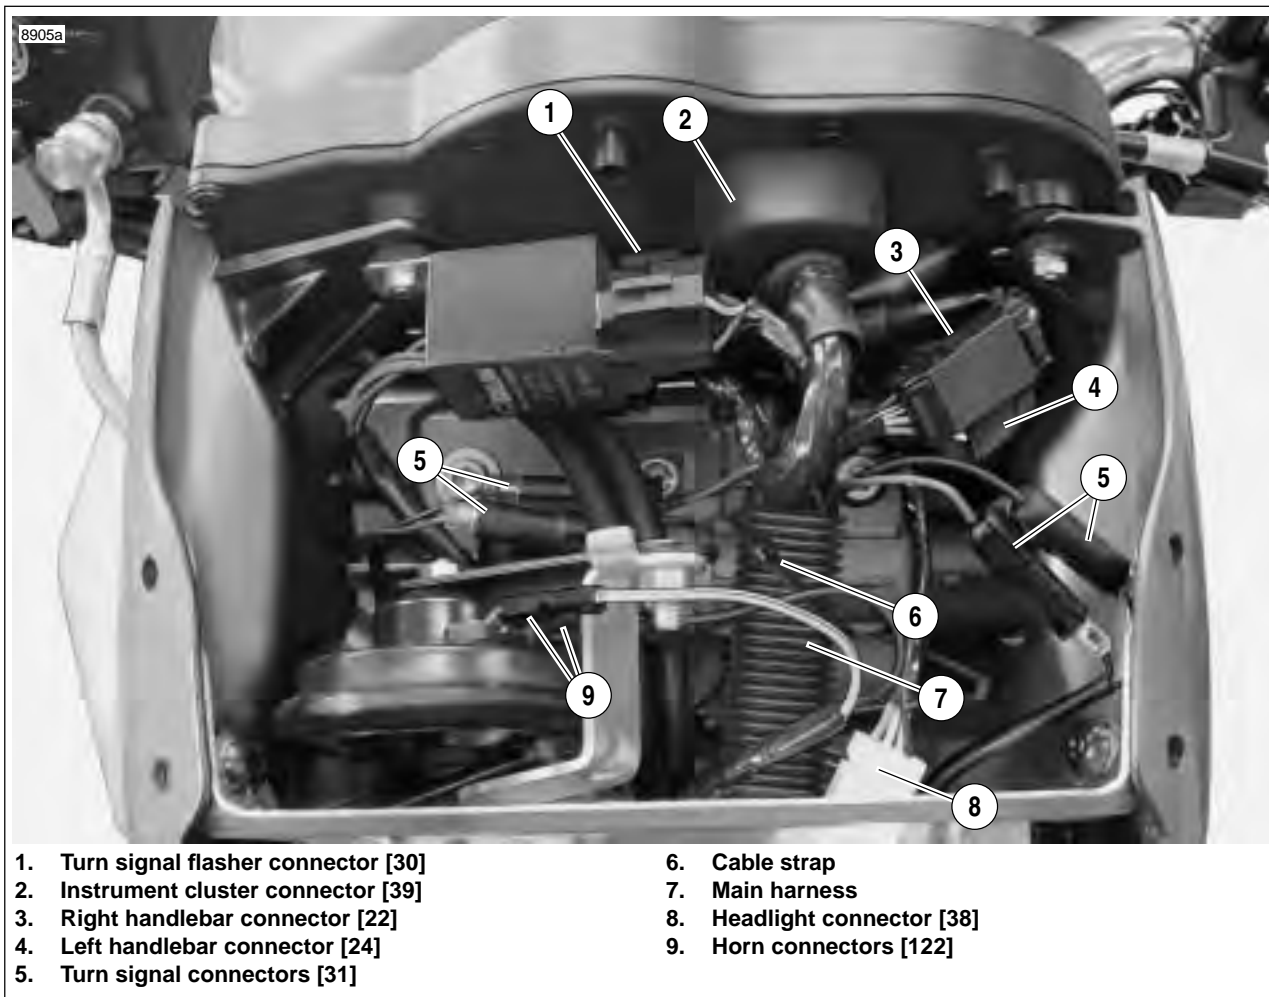

Figure 7-82. Electrical Connectors Behind Windscreen
7. See Figure 7-82. Connect:
8. Install cable strap (6) loosely around main harness (6) and ignition switch.
20. See Figure 7-82. Connect: